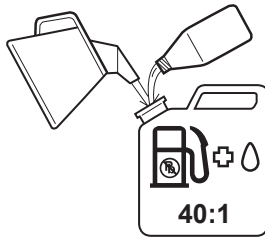
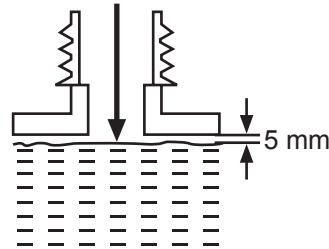

Fig. 1
Fig. 2
- > Mix a regular-grade unleaded petrol and a quality engine oil for air cooled 2 stroke engines in a suitable container (Fig. 1).
- > Unscrew and remove the fuel tank cap (10).
- > Fill correctly mixed fuel/oil into the tank using a fuel funnel fitted with a filter to avoid debris entering the tank. Do not overfill. Leave a minimum 5 mm of space between the top of the fuel and the inside edge of the tank (11) to allow for expansion (Fig. 2).